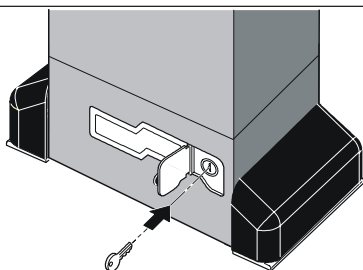

Fig. 48
- 1) Open the protection door and fit the supplied key in the lock (Fig. 48).